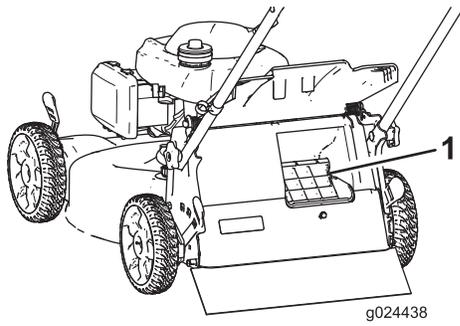

Figure 16
**Important:** For proper operation, remove any grass clippings and debris from the bag-on-demand door and the surrounding opening (Figure 16) before you move the bag-on-demand lever from one position to another.